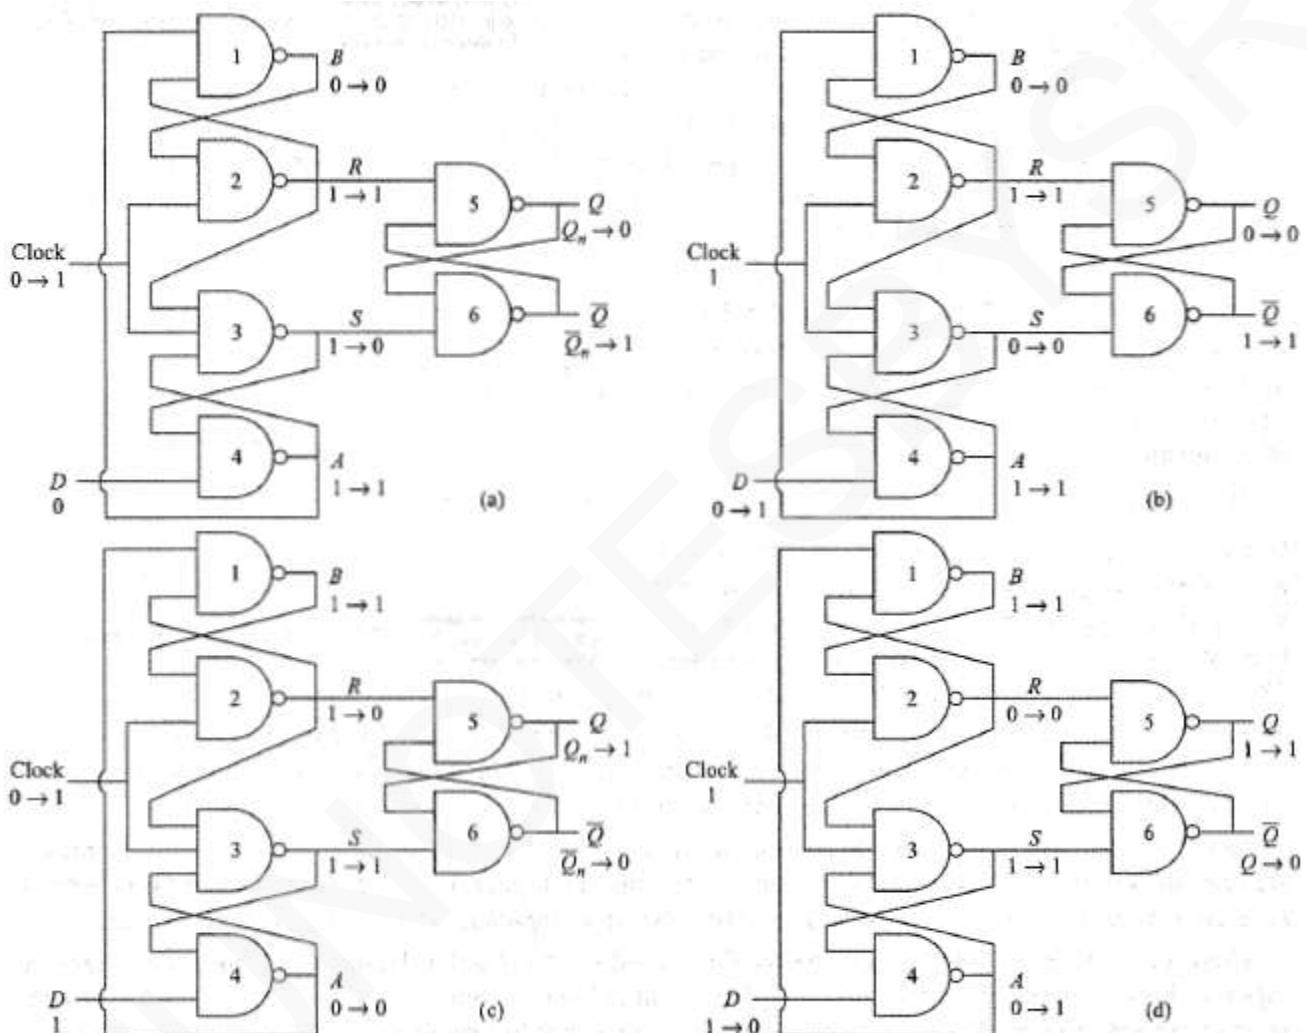

Figure 8.27: Positive edge triggering of D type flip-flop through input lock out
- As shown in Fig. 8.27, this circuit requires 3 NAND latches. (Total 6 NAND gates).